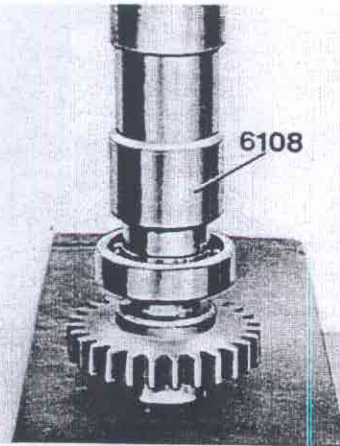

Fig. 48-28. Pressing on the wheel
2. Press on the gear wheel with 6110, see Fig. 48-28.